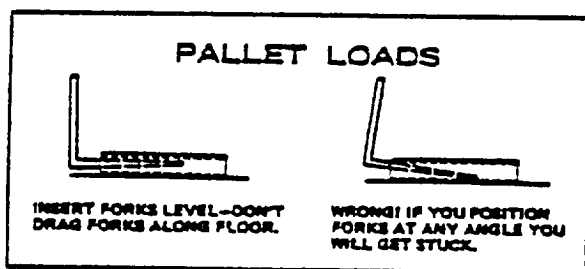

Figure 4-5. Palletized Load Handling
- a. Position the lift truck squarely in front of the load (Fig 4-5).